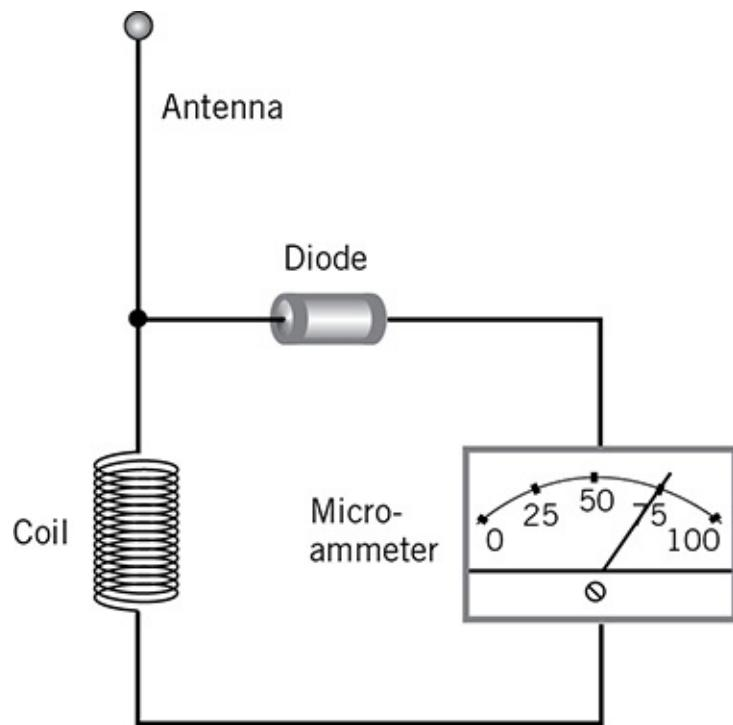
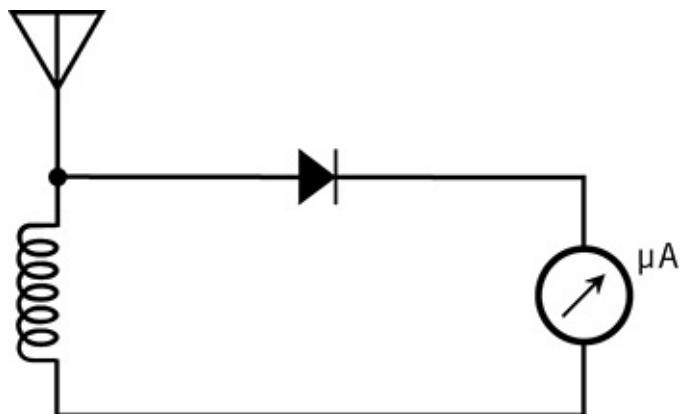

FIG. 4-8 Pictorial of an RF field-strength meter circuit.
FIG. 4-10 Schematic of the RF field-strength meter.
Figure 4-8 is a pictorial drawing of an *RF field-strength meter*. Radio engineers sometimes use this type of meter to see whether or not an RF electromagnetic (EM) field exists at a given location. You’ll find this device handy if you want to locate the source of something that’s causing RF interference to your amateur or shortwave radio receiver. The circuit consists of a small whip antenna, an RF diode, a microammeter (a sensitive current meter graduated in millionths of an ampere), and an inductor.
Figure 4-10 is a schematic of the field-strength meter shown pictorially in Fig. 4-8. This drawing involves nothing more than substitution of the schematic symbols for the pictorial symbols. When you assemble the meter, the parts need not go in the same *physical locations* as the schematic implies, but you should connect them in the same *sequence* as the schematic indicates.
When you build a circuit from a schematic, *triple-check* your component interconnections to ensure that they agree with the schematic. If you try to build the circuit according to Fig. 4-10 and make a mistake anywhere in the wiring (and it's easy to do), you can't expect the finished device to work. In some cases, a minor wiring error can cause major component damage!
In the circuit of Figs. 4-8 and 4-10, an EM field induces RF current in the antenna and inductor. That current constitutes high-frequency AC. The diode